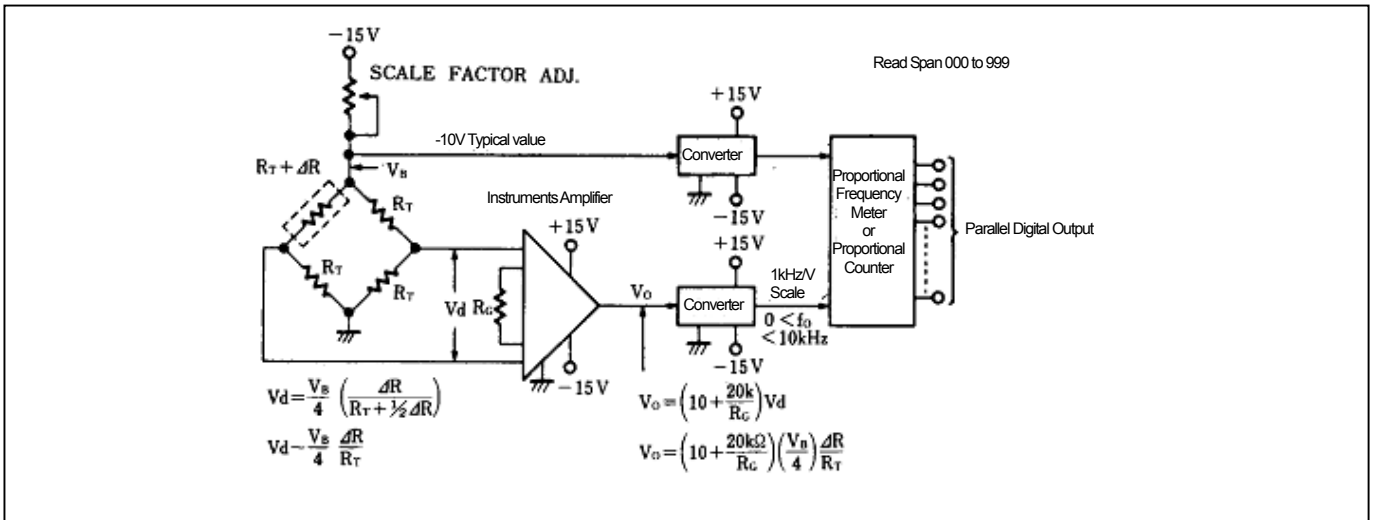

Figure 13. Proportional meter system
The accuracy of the systems is better on used proportional method, for measurement equipment. Use the NJM4151, Figure 13 shows the proportion by weight measurement system. First, the strain gauge bridge circuit, and the cells of weight detecting detect the weight. Then generates a difference voltage. The Difference voltage (VD) for the converting bridge approximated  $V_B \Delta R / R_T$  in a small range of resistance changes of strain - gauge. Necessary information is  $\Delta R / R_T$  and the voltage ( $V_B$ ) across the bridge must be stable. Instrumentation - amplifier amplify the low input differential voltage ( $V_D$ ). It is used to eliminate the common mode input voltage. The voltage across the bridge ( $V_B$ ) converted to frequency ( $f_B$ ). Then, the output voltage amplitude ( $V_0$ ) converted to frequency ( $f_0$ ). Hereby, ADC is designed for proportional meter. The voltage across the bridge converter is 1Hz / V. Amplifier voltage converter is 1kHz / V conversion factor. Proportional counter and frequency meter type of proportional will be used to convert frequency ratio  $f_0/f_B$ . The first advantage of conversion technology by the proportional method is that it is independent of the voltage across the bridge. Frequency ( $f_B$ ) is proportional to the bridge voltage ( $V_B$ ). Output frequency ( $f_0$ ) is proportional to the  $V_B$ .  $f_0/f_B$  is independent of  $V_B$ , only proportional to  $\Delta R / R_T$ .